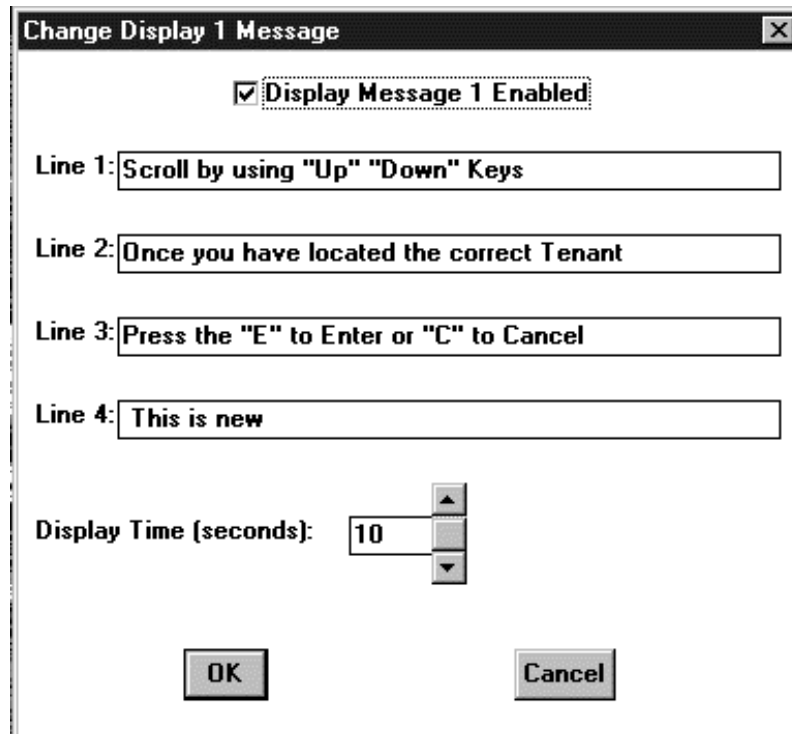

Figure 5.6.2.3
a) After selecting one of the **Marquee Messages** per section 5.6.2.1, the following *Change Display Message* window (Figure 5.6.2.3) will appear: